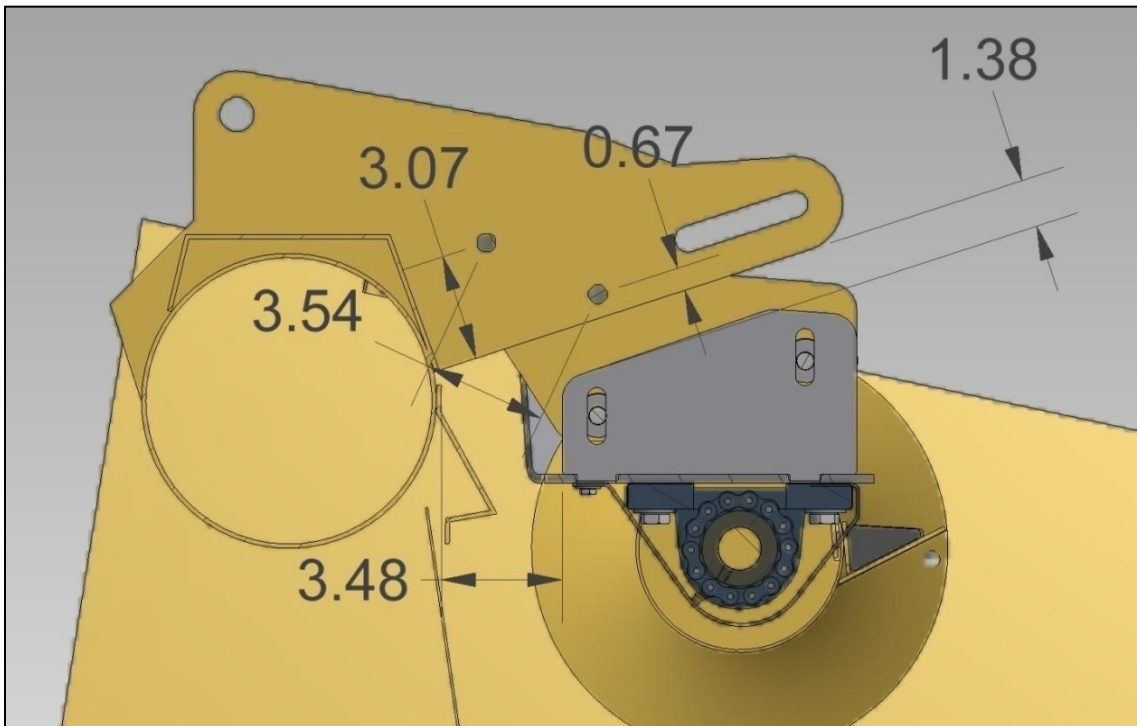

FIGURE 9 DRILL PATTERN FOR CENTER MOUNT
1. see Figure 9 Drill pattern for center mount-----Locate the 3 different pieces of the center mount, observe the direction below regards where to drill holes to mount the sky blue colored outer plates that hold the dark blue mount in place. Mark the holes, drill the holes with 1/2- 9/16" bit, and bolt loosely into place.